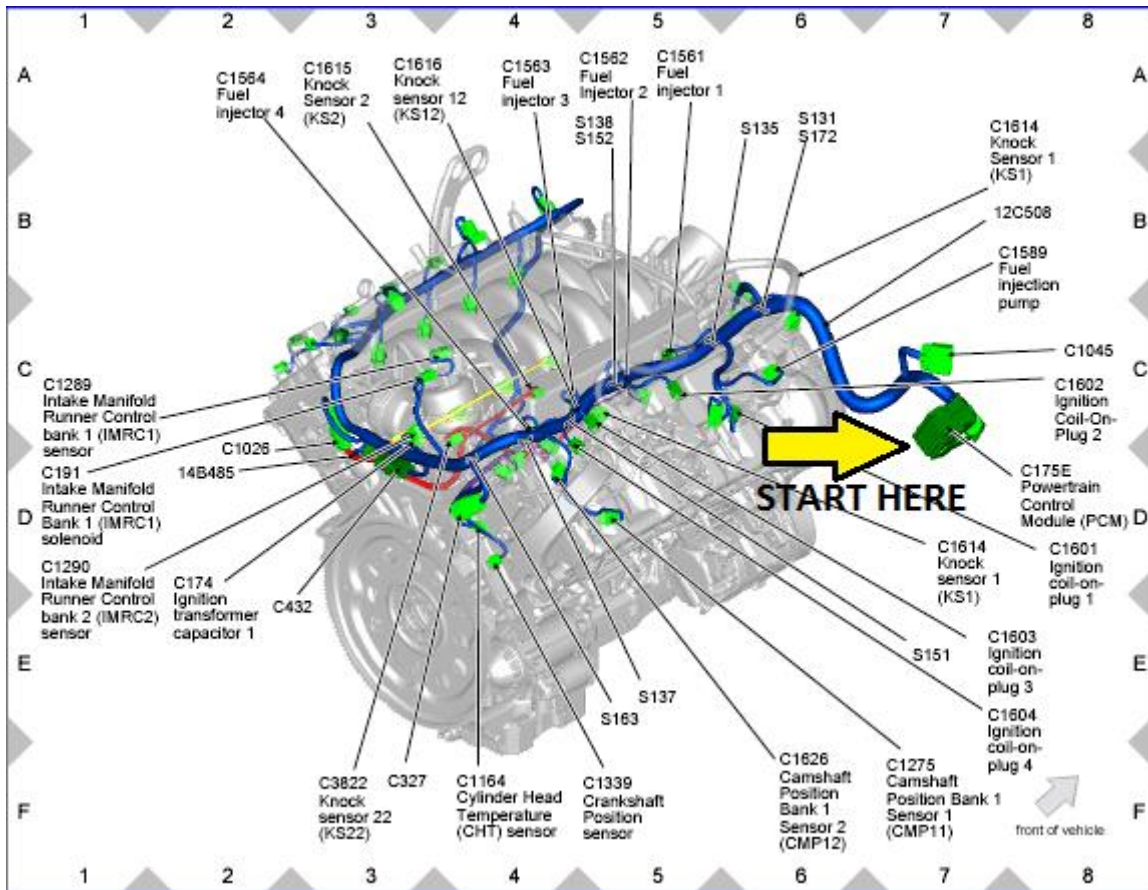

Figure 2 – Rear View of Engine.
1. Identify proper mounting location for the PCM, Power Distribution Box (Item A) & Inline Fuse Holder. Locate the PCM connector (C175E) on the engine harness as indicated in Figure 2 by the "START HERE" arrow.